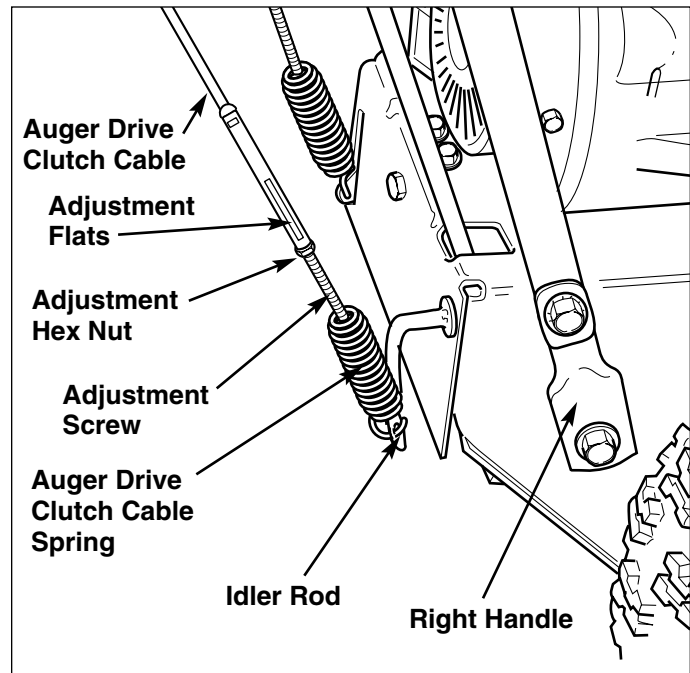

Figure 21. Auger Drive Clutch Cable Adjustment
1. Loosen adjustment hex nut (Figure 21) by holding the adjusting flats and turning adjustment hex nut.